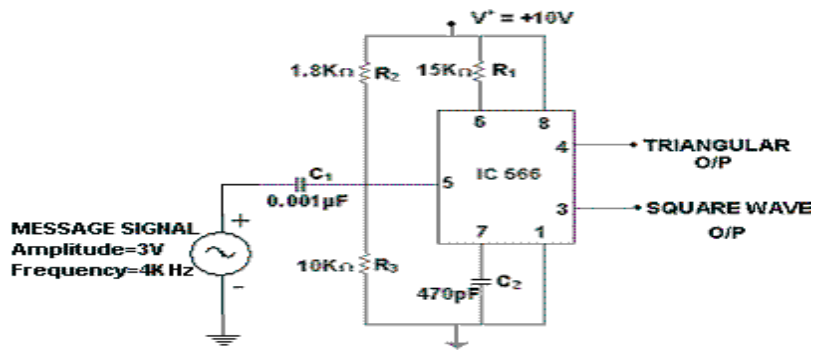
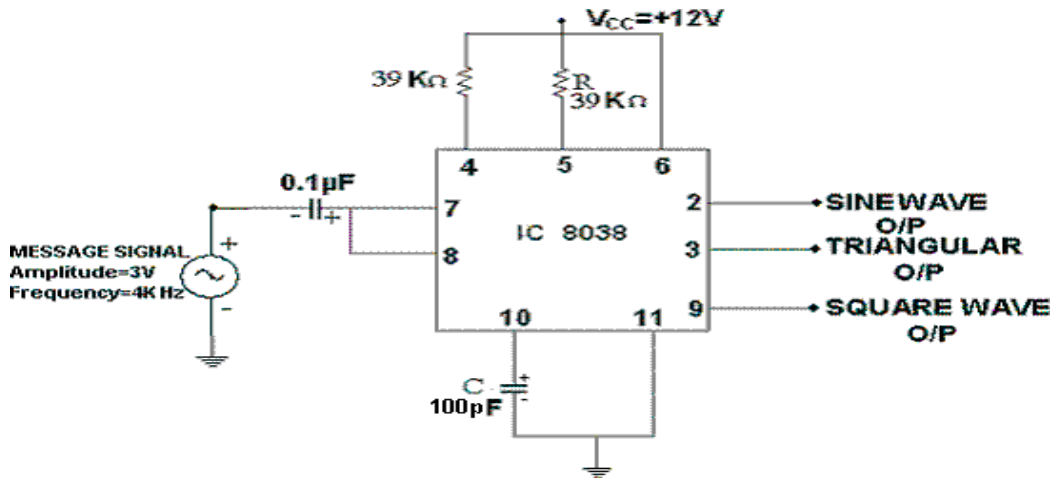

Fig.1.FM Modulator Using IC566
Fig.2.FM Modulator Circuit
1. The circuit is connected as per the circuit diagram shown in Fig. 2 (Fig. 1 for IC 566)